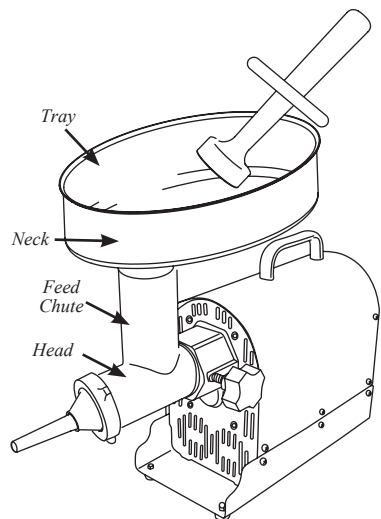

FIGURE 7
7. Insert the neck of the Tray into the Feed Chute (FIGURE 7).
8. NEVER operate Grinder without the Tray secured in place (FIGURE 7).